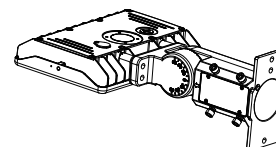

Figure 22
Step 1: Remove the spare parts, the remaining parts as shown in Figure 22;